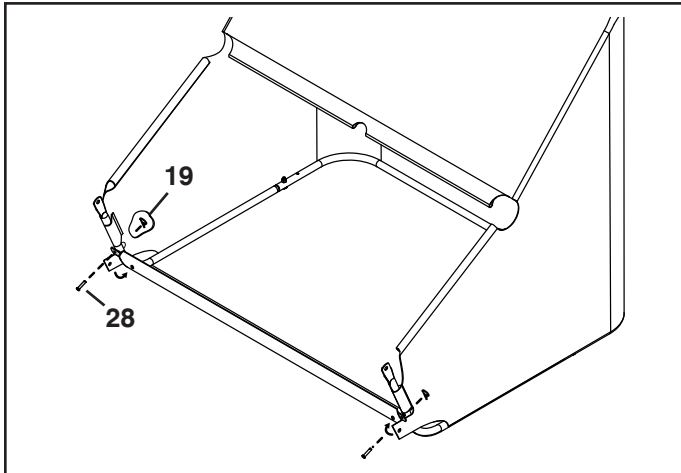

FIGURE 9
STEP 9: (SEE FIGURE 9)
- Slide the front flaps of the hopper bag up onto the front of the lower hopper tubes. Secure the bag frame tube to the lower hopper tubes using two clevis pins (28) and small hairpin cotters (19).